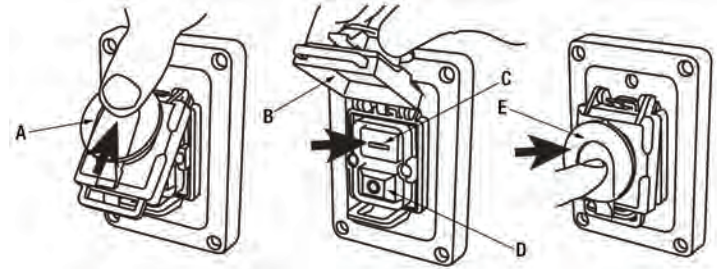

Figure 3
This Sander comes with a 2 step activation safety switch, refer to Fig.3, which starts and stops the machine. To turn the Sander on:
1. Push up on the emergency stop button (A) Fig.3 and lift the switch cover (B) as shown.
2. Press the green On button (C) to start the Sander.
3. To stop the Sander, you can either press the red Off button (D) or close the switch cover and push the large emergency stop button (E).